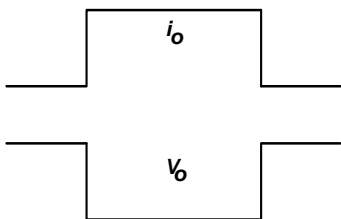
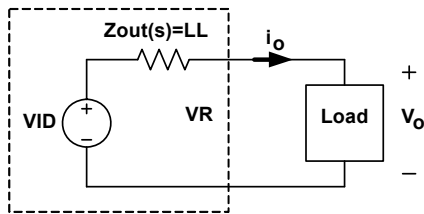

FIGURE 15. DESIRED LOAD TRANSIENT RESPONSE WAVEFORMS
FIGURE 21. VOLTAGE REGULATOR EQUIVALENT CIRCUIT
Assuming the compensator design is correct, Figure 15 shows the expected load transient response waveforms if C_n is correctly selected. When the load current I_{core} has a square change, the output voltage V_{core} also has a square response.
Figure 15 shows the desired load transient response waveforms. Figure 21 shows the equivalent circuit of a voltage regulator (VR) with the droop function. A VR is equivalent to a voltage source (= VID) and output impedance $Z_{\text{out}}(\text{s})$. If $Z_{\text{out}}(\text{s})$ is equal to the load line slope LL, i.e. constant output impedance, in the entire frequency range, V_o will have square response when I_o has a square change.